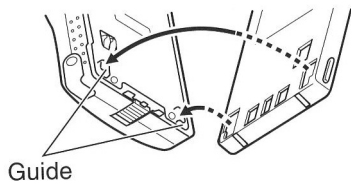

Figure 4.2
1. Position the two groves on the inside bottom corners of the battery pack over the corresponding guides on the back of the Handheld Radio Remote (Figure 4.2).